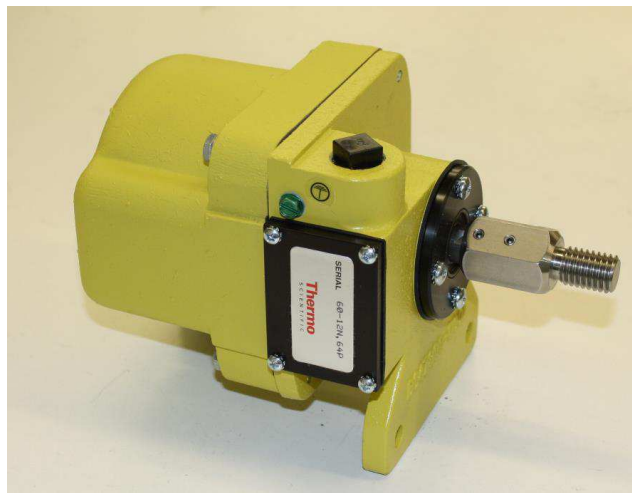

Figure 1. Model 61-12N-64P Speed Sensor
1. Remove the terminal strip cover (Figure 1) and the dust plug from the threaded conduit aperture in the speed sensor housing.